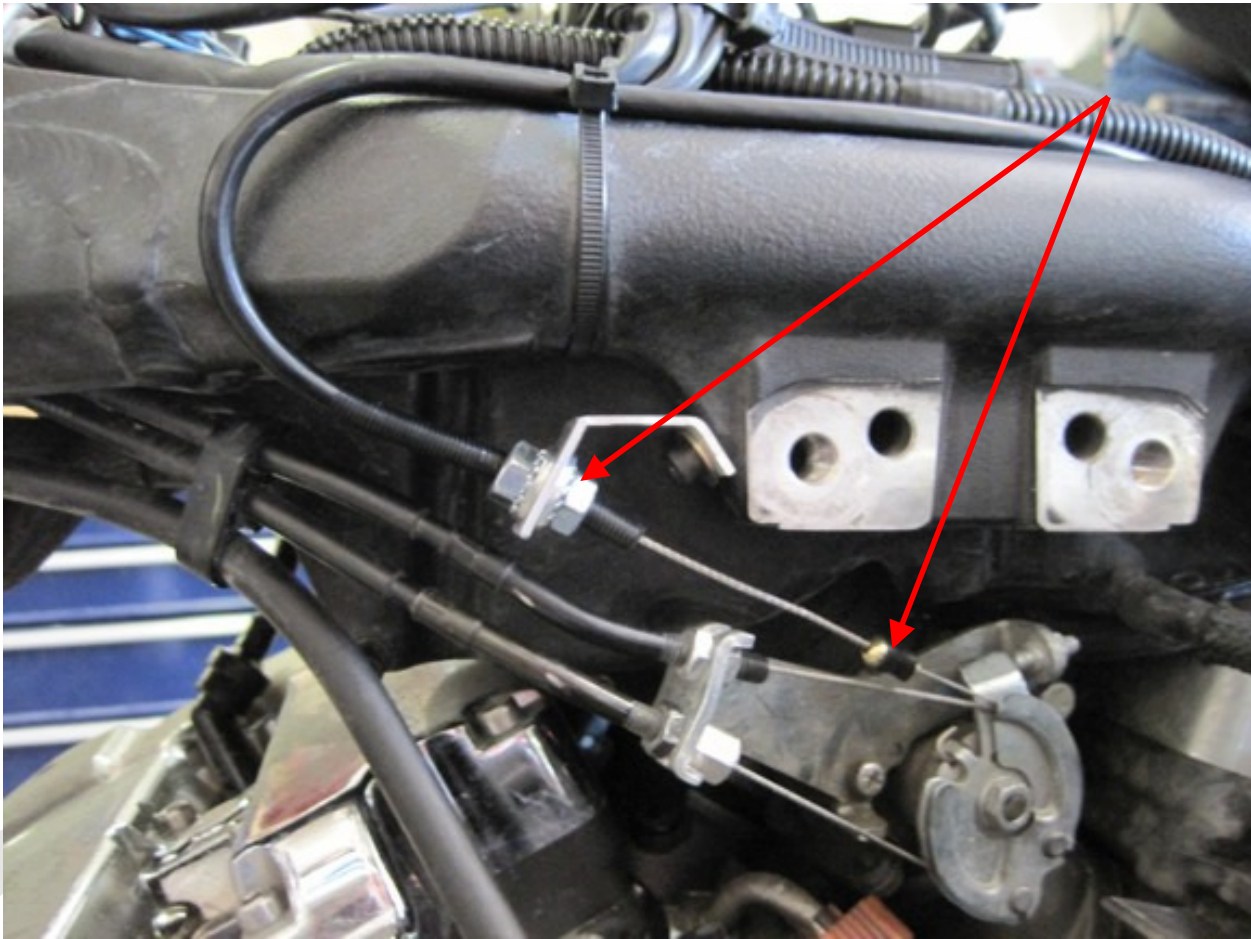

Fig.32
- Be sure to install the throttle cable into the bracket with a nut and washer on each side of the bracket before you make the final connection between the servo cable and the loop cable.(Fig.32)